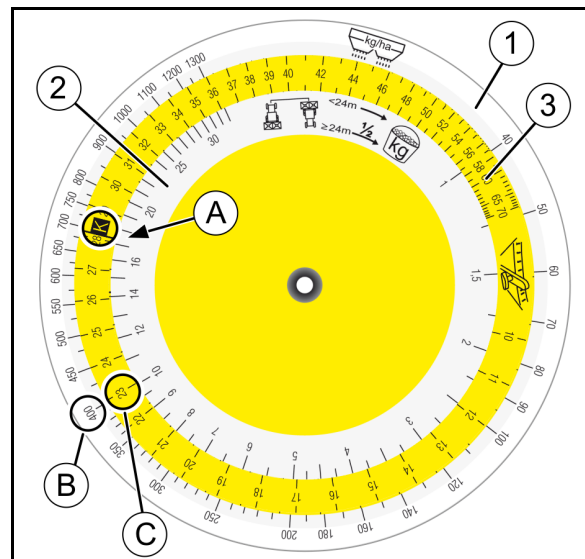

Fig. 60
7. Take the calculating disc rule for the calibration kit. On the scale (Fig. 60/2) for collected quantity [kg], look for value 17.5 (A) and align with position **K** of coloured scale (Fig. 60/3).
8. Look up the required spread rate (400 kg/ha) (B) on the scale for the spread rate (Fig. 60/1) and read off the slider position **23** (C).